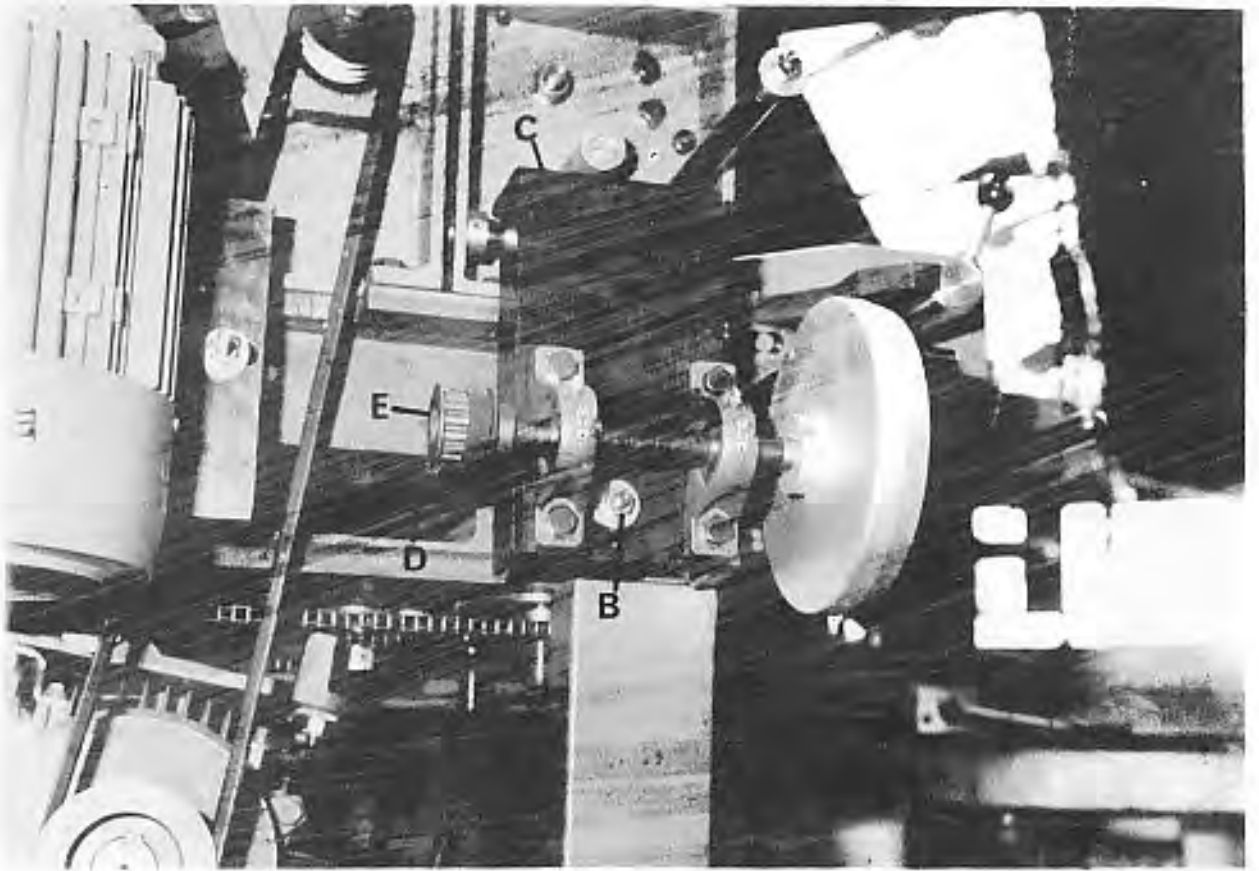

Fig 24
- 5) Loosen M10 nut behind tension bracket "C" FIG.24 until timing belt "D" can be removed from pulley "E" on rise and fall shaft.
- 9) Adjust M10 nuts "B" FIG.24 to tension belt. Correct tension will have been achieved when belt can be deflected to 8mm in centre of span.